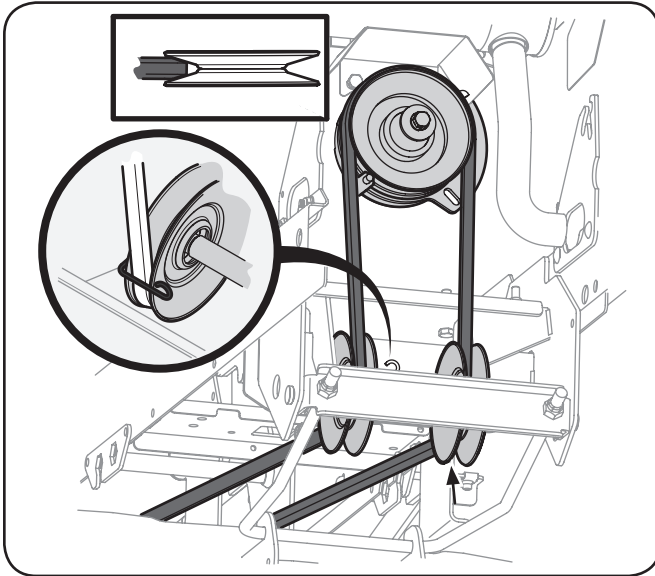

Figure 3-10
7. Working from the front of the tractor, route the belt around the PTO clutch pulley, with the 'V' side of the belt seated in the pulley. Carefully feed the belt downward and route it in the two mule drive pulleys. See Figure 3-10.